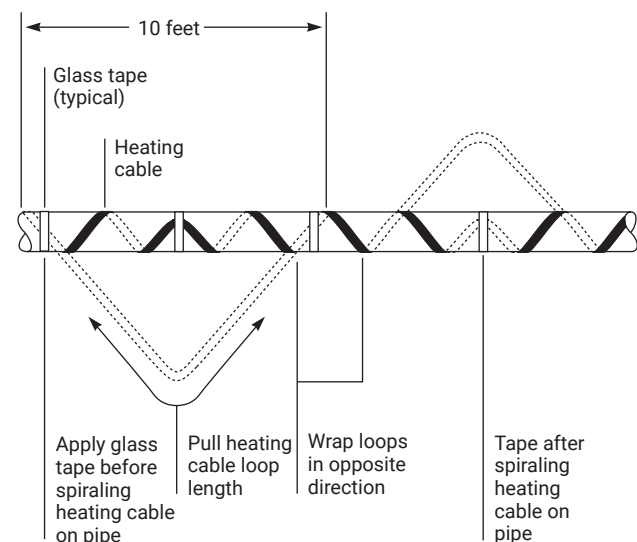

Figure 1. Spiraled heat tracing
- When the design calls for spiraling, begin by suspending a loop every 10 feet as shown in Figure 1. To determine the loop length, obtain the spiral factor from Table 1 or 2 and multiply by 10. For example, if a spiral factor of 1.3 is called for, leave a 13-foot loop of heating cable at every 10-foot section of pipe. Grasp the loop in its center and wrap it around the pipe. Even out the distance between spirals by sliding the wraps along the pipe. Use glass tape to secure the center of the loop to the pipe to obtain good contact.